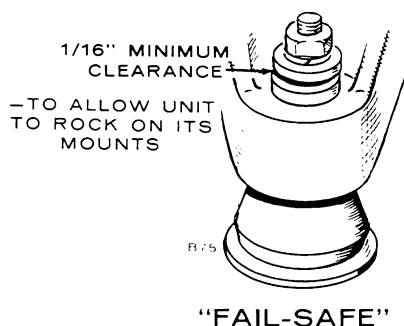

FIGURE 2. VIBRATION ISOLATORS
2. Vibration isolators of the type shown (with snubbing washers) in Figure 2 must be installed properly to minimize vibration. Leave 1/16-inch minimum clearance between the snubbing washers as shown in Figure 2.